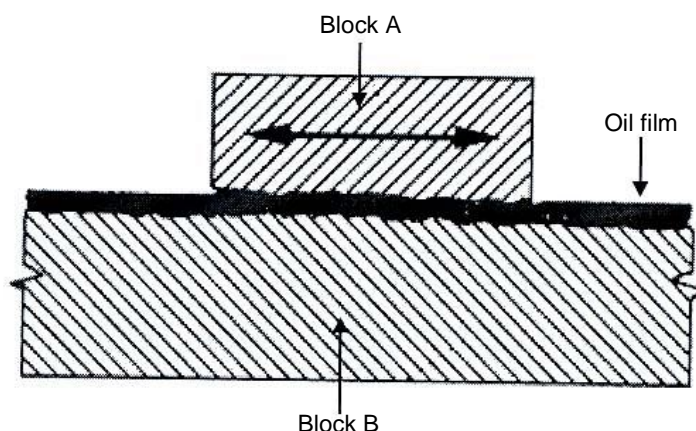

FIG 2.
- Fig 2 show what happens when a lubricant is applied before Block A is moved across Block B. The oil spreads between the two blocks forming an even film. The contact areas of the blocks are separated and the blocks slide on the film of oil.